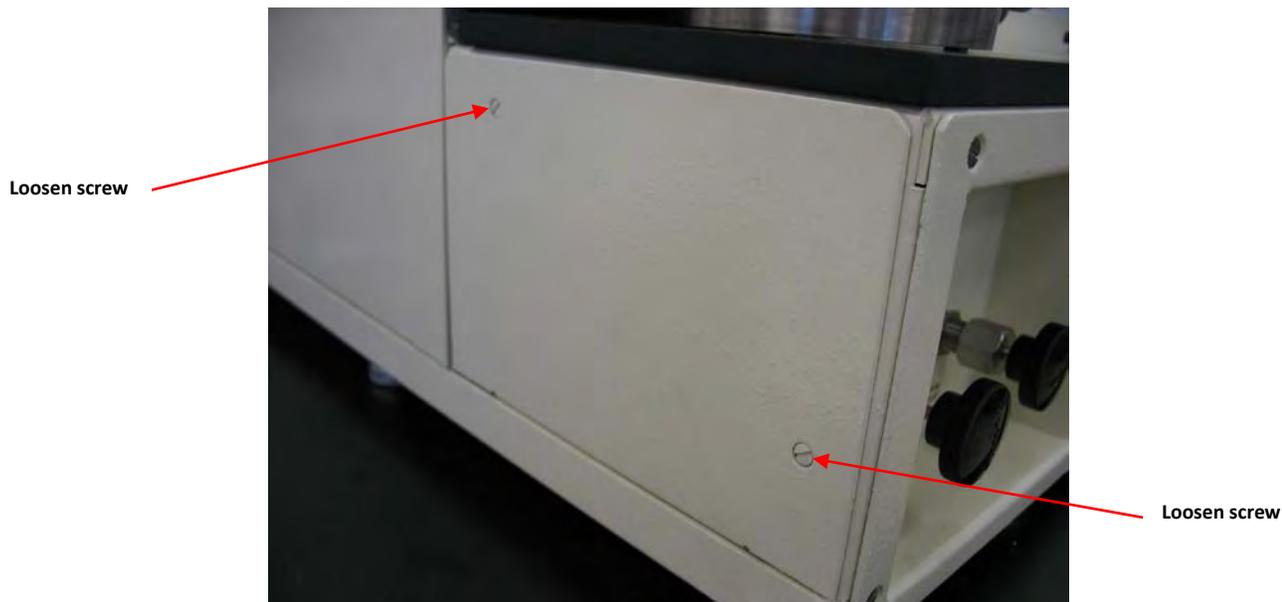

Figure J2 – Side cover removal
1. Remove small side cover on left side of the machine by loosening 2 screws (figure J2).